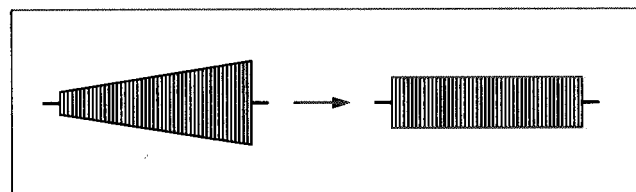

Fig. 3-2-5 PB FM
- (1) Connect an oscilloscope to TP106 and external trigger from TP111 (positive slope).
- (2) Playback the LP stairstep portion of the alignment tape.
- (3) Set the automatic tracking control to the OFF by simultaneously pressing the CH "+" and "-" buttons.
- (4) Adjust for maximum level of playback FM waveform by depressing the CH "+" or "-" buttons.
- (5) Set the VCR to the LP 2x mode.
- (6) Adjust for half level of playback FM waveform from maximum level by depressing the CH "+" or "-" buttons.
- (7) Adjust by pressing the "M+D" or "M+E" buttons of the presetting unit for FM waveform is flat as shown in Fig. 3-2-5.
- (8) Record the stairstep signal by the LP mode and play it back.
- (9) Repeat steps (3) and (7) in the LP 1/6 FWD slow mode.